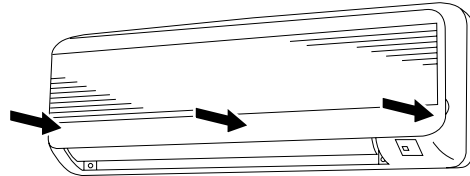

Fig. 15b
- (3) Press at each of the 5 tabs to completely close the grille. Make sure that the grille and frame are firmly fitted together. (Fig. 15b)